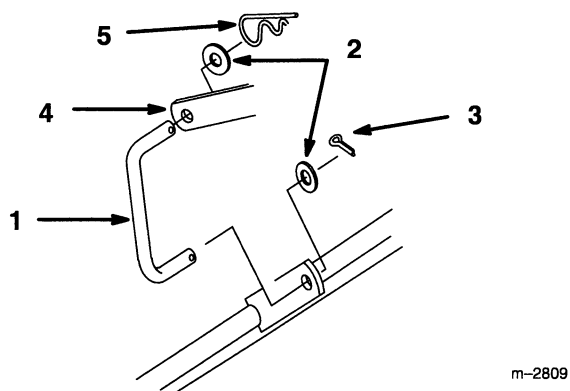

Figure 2
1. Install rear link to center wheel shaft bracket with 1/2" washer and 1" cotter pin (Fig. 2).
7. Attach rear link to attachment lift with 1/2" washer and 2-9/16" hairpin cotter (Fig. 2 & 4).